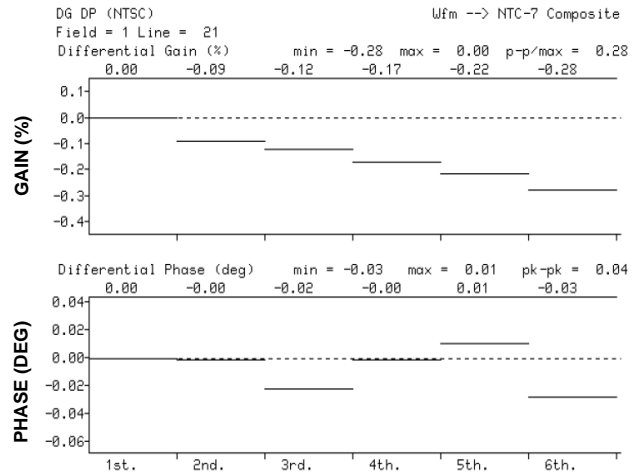

FIGURE 18. DIFFERENTIAL PHASE AND DIFFERENTIAL GAIN
Figure 18 shows the differential gain (DG) and differential phase (DP) plots at the output of the switch using an actual NTSC composite video signal and a VM700A Video Measurement Test Set. DG = 0.28% and DP = 0.04°.